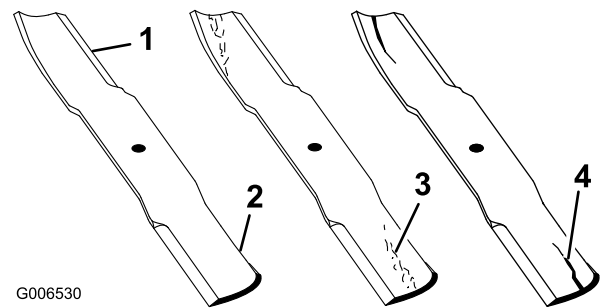

Figure 44
1. Inspect the cutting edges (Figure 44).
2. Inspect the blades, especially the curved area (Figure 44).
**Note:** If you notice any damage, wear, or a slot forming in this area (items 3 and 4 in Figure 44), immediately install a new blade.